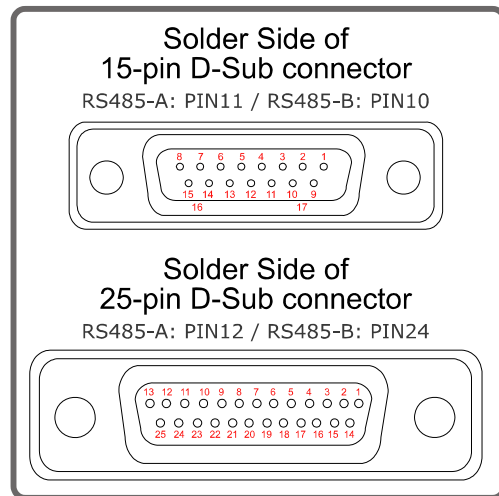

Figure 7: Solder side of the DVR’s supplied D-Sub connector
- Step4: Solder the red and blue wires of the RJ11 line to the corresponding pins of the D-Sub connector supplied with the connected DVR (*Figure 7*).
Step4: Solder the red and green wires of the RJ11 line to the corresponding pins of the D-Sub connector supplied with the connected DVR (*Figure 7*).